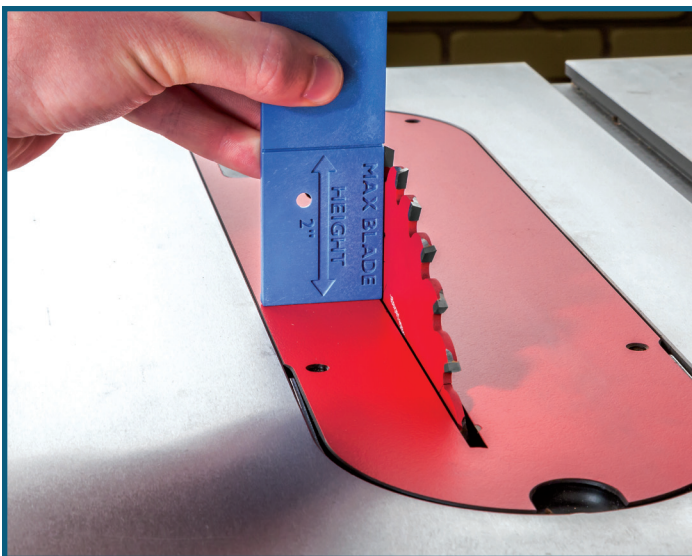

Fig. 3
8. With the saw off, raise the saw blade, using the markings on the back of the plastic Drop-Off Ramp (3) as a guide to set the correct maximum blade height (no more than 2" above the table saw surface). **Fig. 3.**